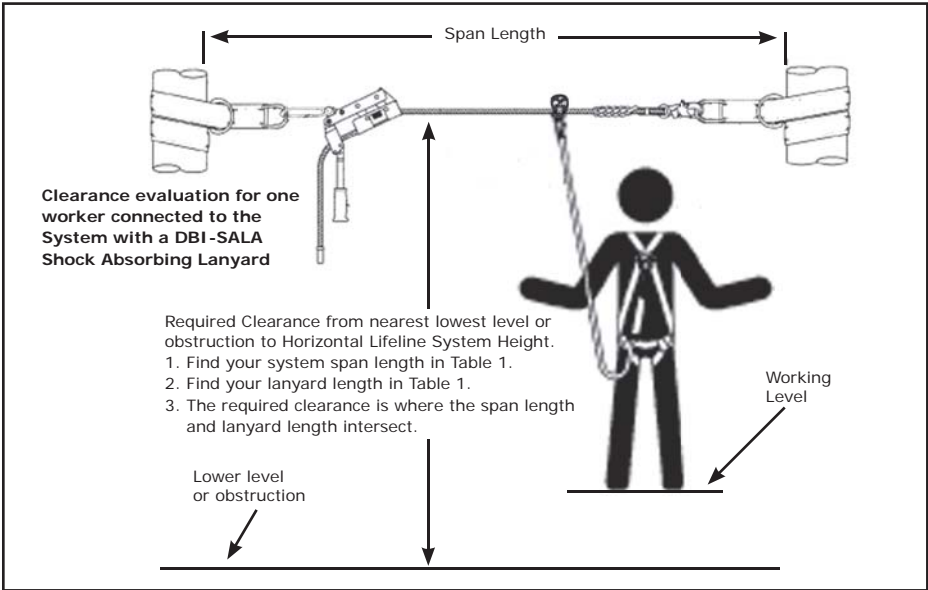

Figure 4
Table 1 - Required Clearance for One Worker Connected to the System with a DBI-SALA Shock Absorbing Lanyard (See Figure 4 above)
Step 1. Determine the locations of the end anchorages and evaluate their strengths in accordance with section 2.4. Determine the span length and evaluate the required clearance using Figure 4, 5, or 6, and Tables 1, 2, or 3.